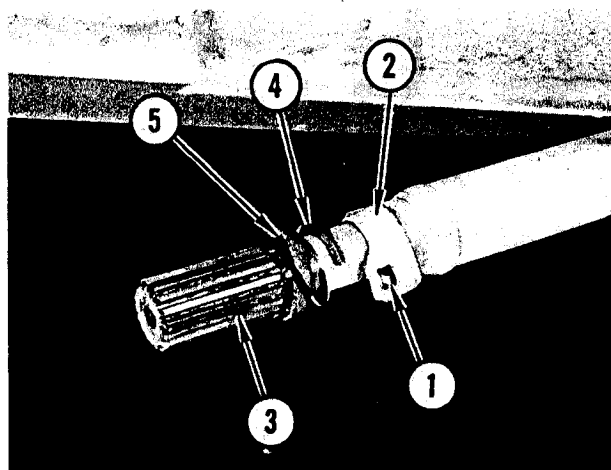

FIGURE 10. POWER TAKE-OFF SHAFT (Power-Flow Models)
Reaching through L.H. opening of fuel tank support, use a small screwdriver to raise locking clips (1) on coupling collar (2) of PTO shaft (3). Slide collar forward away from coupling, Figure 10.